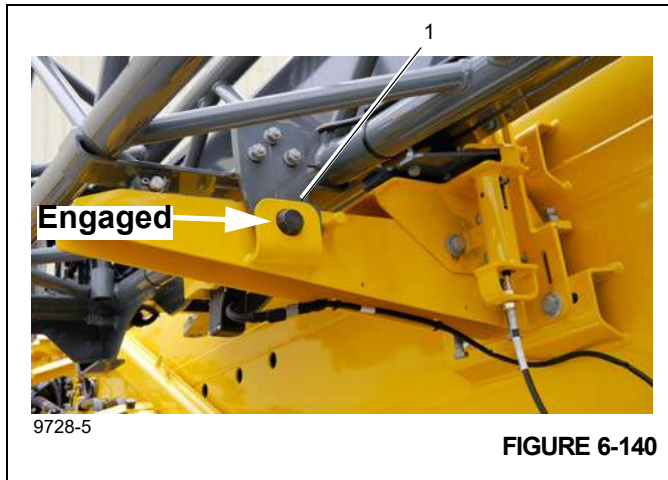

FIGURE 6-139
12. Push the vertical actuated hand levers (1), (Figure 6-138) fully upwards. This engages the pins that secure the fly extension to the main boom (1), (Figure 6-139).
13. Verify the pins (1 and 2), (Figure 6-139) are engaged with the lugs.